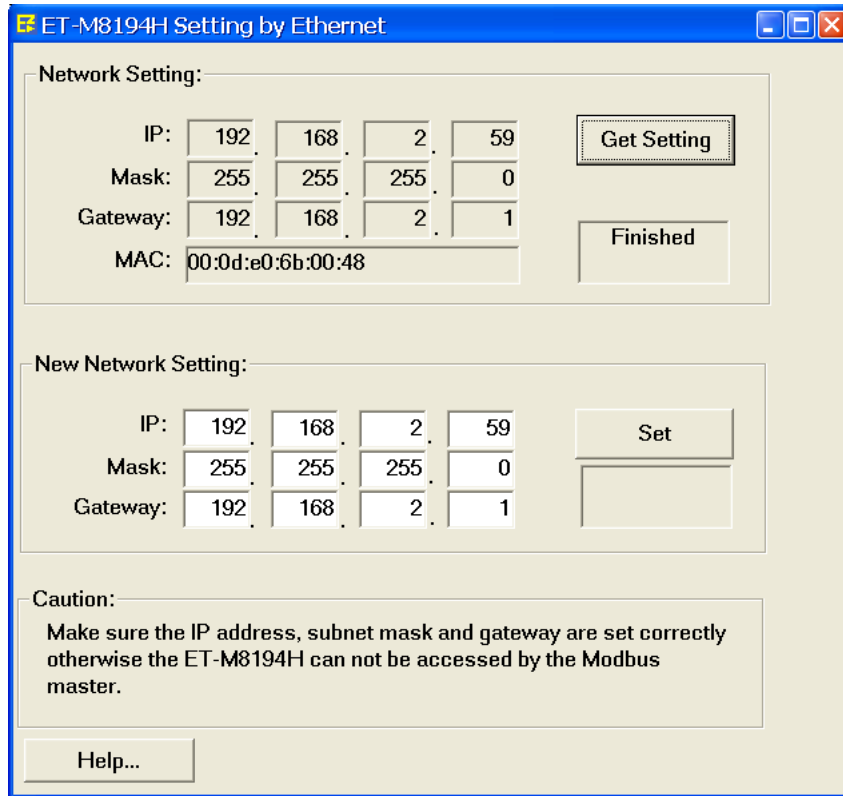

Figure 3: User Interface for ET-M8194H Ethernet configuration via Ethernet
**Step 4: Click [Get Setting] (Figure 3). The utility now reads the Ethernet configuration of the ET-M8194H module set into “Init” mode. Make sure that there is only one ET-M8194H module in “Init” mode connected to the Ethernet.**